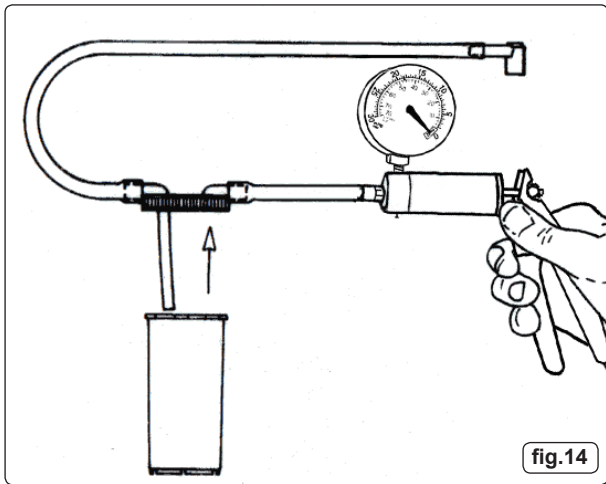

fig.14
7.2.1. Ensure that the vacuum pump is connected to the brake bleeder reservoir in accordance with the assembly diagram (fig.14). Failure to do so will result in brake fluid being drawn into the vacuum pump.